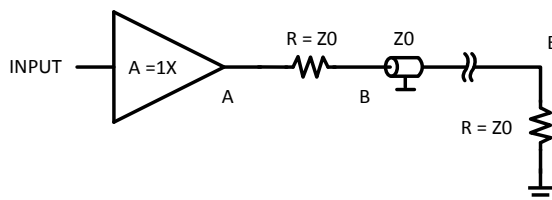
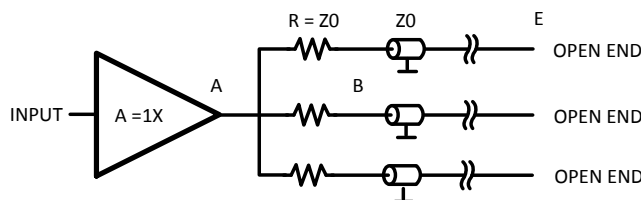
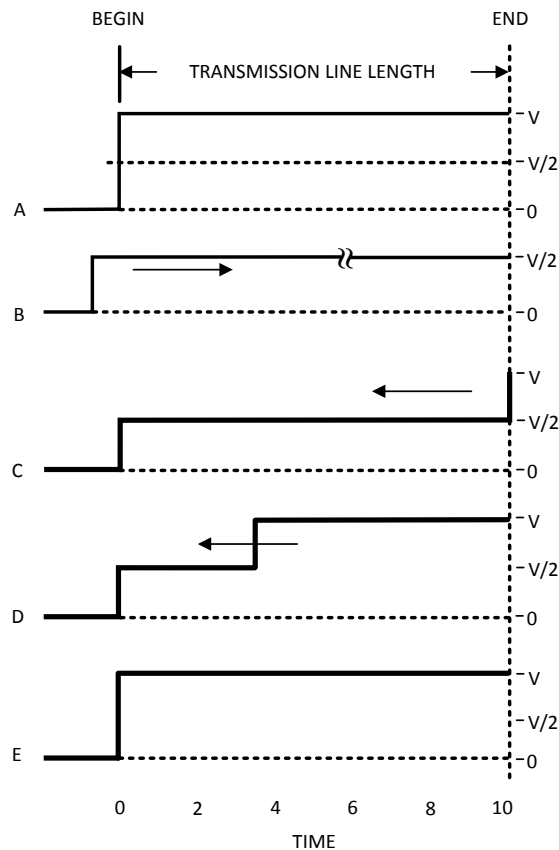

Figure 36.
Figure 38.
Figure 41.
- Use one buffer to drive one transmission line (see Figure 36)
- Use one buffer to drive several transmission lines each driving a different receiver. (see Figure 38)
In most cases, it is unrealistic to think that we can place a driver or buffer so close to the load that we don't need a transmission line to transport the signal. The pcb trace length between a driver and the load may affect operation depending upon the operating frequency. Sometimes it is possible to do measurements by connecting the DUT directly to the analyzer. As frequencies become higher the short lines from the DUT to the analyzer become long lines. When this happens there is a need to use transmission lines. The next point to examine is what happens when the load is connected to the transmission line. When driving a load, it is important to match the line and load impedance, otherwise reflections will occur and this phenomena will distort the signal. If a transient is applied at $T = 0$ (Figure 41, trace A) the resultant waveform may be observed at the start point of the transmission line. At this point (begin) on the transmission line the voltage increases to (V) and the wave front travels along the transmission line and arrives at the load at $T = 10$. At any point across along the line $I = V/Z_0$, where Z_0 is the impedance of the transmission line. For an applied transient of 2V with $Z_0 = 50\Omega$ the current from the buffer output stage is 40mA. Many vintage opamps cannot deliver this level of current because of an output current limitation of about 20mA or even less. At $T = 10$ the wave front arrives at the load. Since the load is perfectly matched to the transmission line all of the current traveling across the line will be absorbed and there will be no reflections. In this case source and load voltages are exactly the same. When the load and the transmission line have unequal values of impedance a different situation results. Remember there is another basic which says that energy cannot be lost. The power in the transmission line is $P = V^2/R$. In our example the total power is $2^2/50 = 80\text{mW}$. Assume a load of 75Ω. In that case a power of 80mW arrives at the 75Ω load and causes a voltage of the proper amplitude to maintain the incoming power.
Many applications, such as video, use a series resistance between the driver and the transmission line (see Figure 36). In this case the transmission line is terminated with the characteristic impedance at both ends of the line. See Figure 41 trace B. The voltage traveling through the transmission line is half the voltage seen at the output of the buffer, because the series resistor in combination with Z_0 forms a two-to-one voltage divider. The result is a loss of 6dB. For video applications, amplifier gain is set to 2 in order to realize an overall gain of 1. Many operational amplifiers have a relatively flat frequency response when set to a gain of two compared to unity gain. In trace B it is seen that, if the voltage reaches the end of the transmission line, the line is perfectly matched and no reflections will occur. The end point voltage stays at half the output voltage of the opamp or buffer.
Another way to reach several points via a transmission line is to start several lines from one buffer output (see Figure 38). This is possible only if the output can deliver the needed current into the sum of all transmission lines. As can be seen in this figure there is a series termination used at the beginning of the transmission line and the end of the line has no termination. This means that only the signal at the endpoint is usable because at all other points the reflected signal will cause distortion over the line. Only at the endpoint will the measured signal be the same as at the startpoint. Referring to Figure 41 trace C, the signal at the beginning of the line has a value of $V/2$ and at $T = 0$ this voltage starts traveling towards the end of the transmission line. Once at the endpoint the line has no termination and 100% reflection will occur. At $T = 10$ the reflection causes the signal to jump to $2V$ and to start traveling back along the line to the buffer (see Figure 41 trace D). Once the wavefront reaches the series termination resistor, provided the termination value is Z_0 , the wavefront undergoes total absorption by the termination. This is only true if the output impedance of the buffer/driver is low in comparison to the characteristic impedance Z_0 . At this moment the voltage in the whole transmission line has the nominal value of $2V$ (see Figure 41 trace E). If the three transmission lines each have a different length the particular point in time at which the voltage at the series termination resistor jumps to $2V$ is different for each case. However, this transient is not transferred to the other lines because the output of the buffer is low and this transient is highly attenuated by the combination of the termination resistor and the output impedance of the buffer. A simple calculation illustrates the point. Assume that the output impedance is 5Ω . For the frequency of interest the attenuation is $V_B/V_A = 55/5 = 11$, where A and B are the points in Figure 38. In this case the voltage caused by the reflection is $2/11 = 0.18V$. This voltage is transferred to the remaining transmission lines in sequence and following the same rules as before this voltage is seen at the end points of those lines. The lower the output resistance the higher the decoupling between the different lines. Furthermore one can see that at the endpoint of these transmission lines there is a normal transient equal to the original transient at the beginning point. However at all other points of the transmission line there is a step voltage at different distances from the startpoint depending at what point this is measured (see trace D).